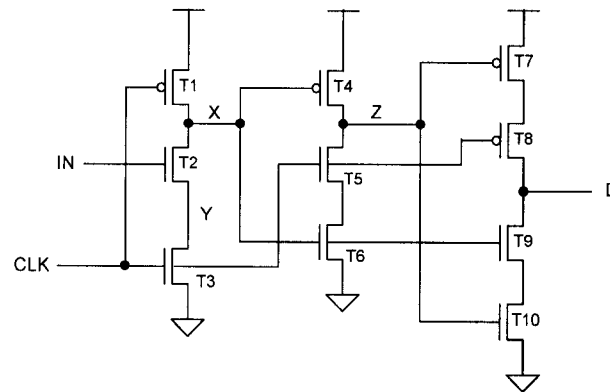
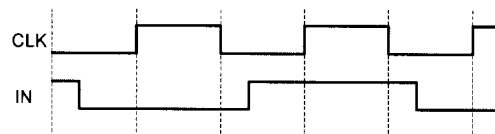

Figure 5.1
Figure 5.2
5. a) Figure 5.1 shows the transistor-level schematic diagram of a latch circuit. Given that the timing diagram for the input signals CLK and IN is as shown in Figure 5.2, draw the timing diagram for the signals at X, Y, Z and D. Label your timing diagram indicating the various states of the signal nodes as:
*driven low (DL)* - a path to ground exists,
*driven high (DH)* - a path to VDD exists,
*charged low (CL)* - high impedance with no stored charge at ground, and
*charged high (CH)* - high impedance with stored charge at VDD.